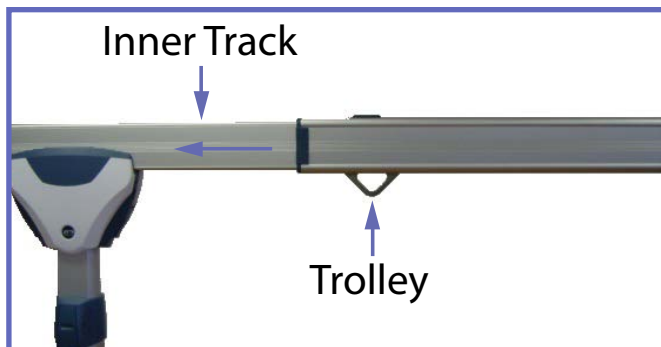

Fig. 13
- 2) Trolley position should be as shown in "Fig. 13". If not, make sure that inner track is extended. Trolley will become free of its transportation slot. If it does not, shake the trolley lightly left and right to release it. Trolley should move freely at this point.